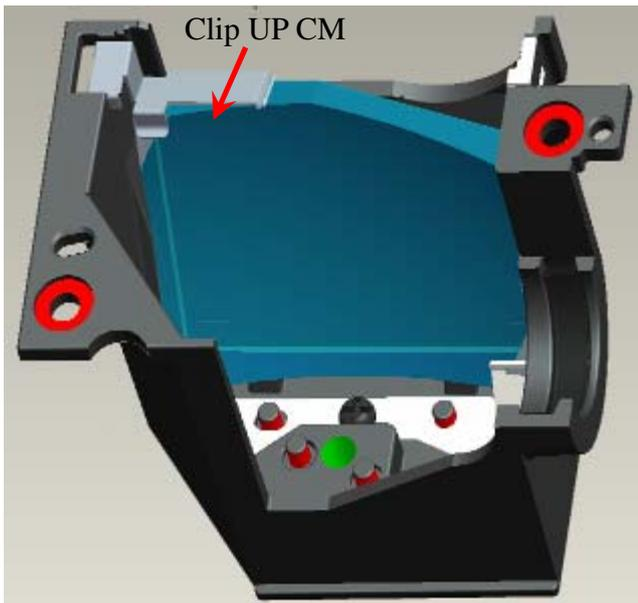

Fig. 6-4
- III. Assemble “CLIP TOP CM” (with forceps) to the “HSG IL” (Fig. 6-4).